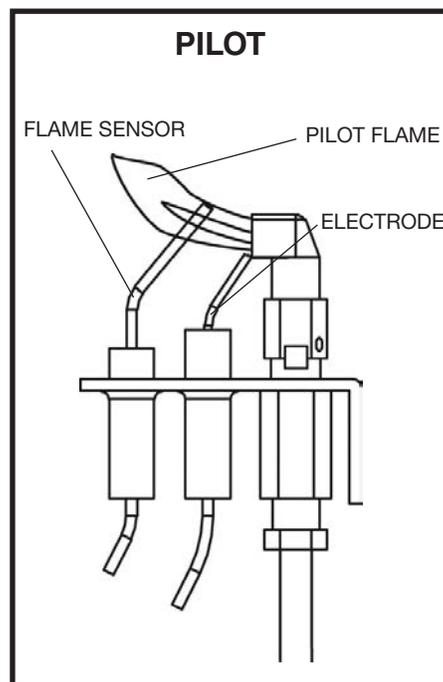
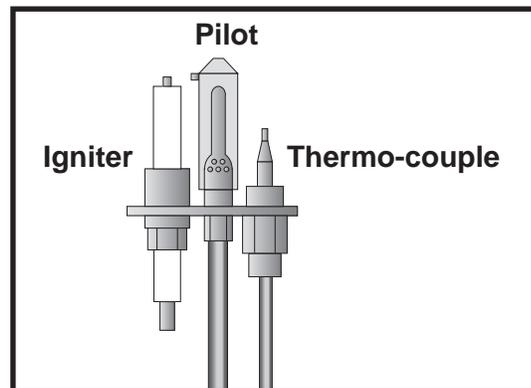

Figure 107: SIT pilot assembly.
Figure 108: Maxitrol pilot.
- Check the pilot system for proper flame size and operation. Clean pilot free of soot, dust or any other deposits (Figure 107 and Figure 108). Have a qualified service person adjust the pilot flame.